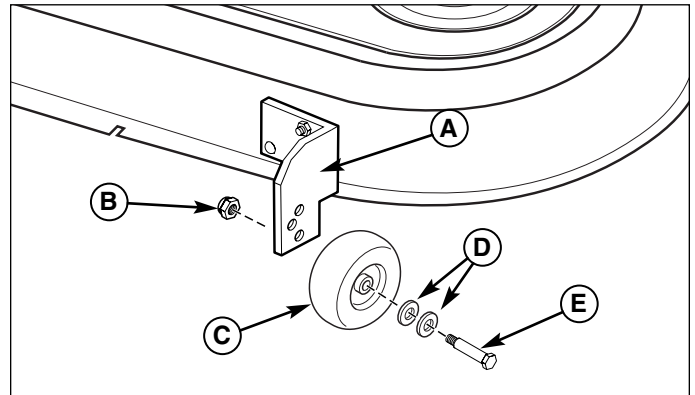

Figure 48. Fixed Bracket Gauge Wheel Adjustment
1. Remove the locknut (B, Figure 48), gauge wheel (C), washers (D), and shoulder bolt (E). Change position of gauge wheel to desired height.
2. Insert shoulder bolt (E) through washers (D) gauge wheel (C), and gauge wheel bracket (A). Secure with locknut (B). Repeat steps 1 & 2 for all gauge wheels.